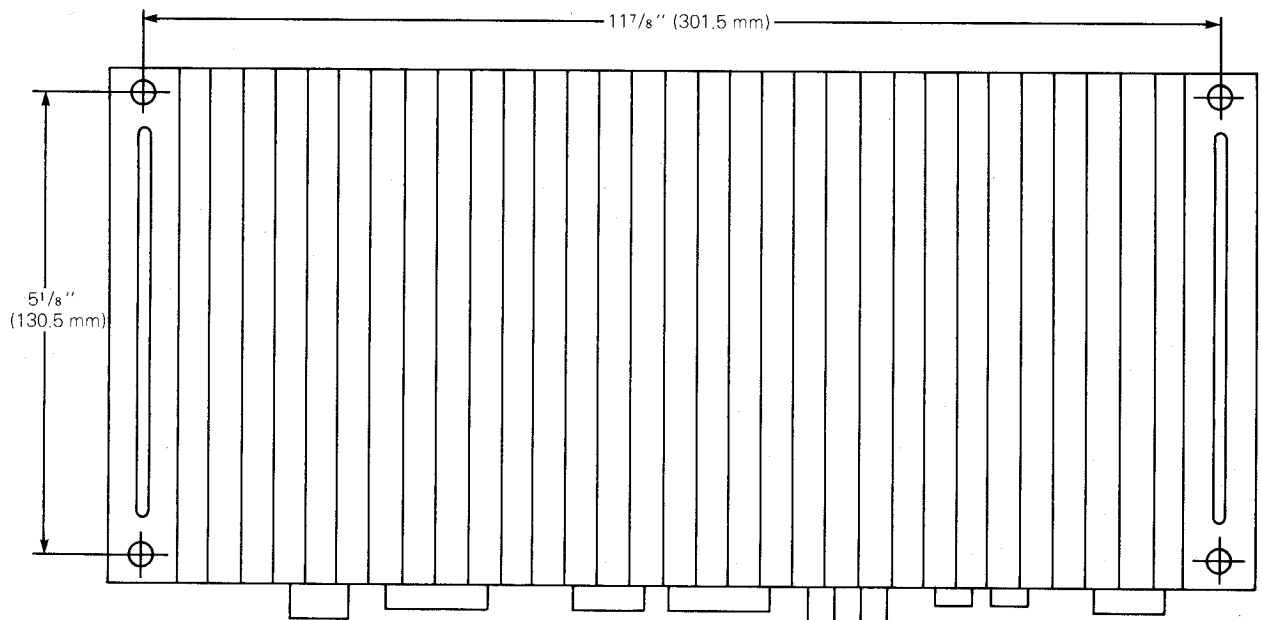

Figure 1. Mounting Centers
Use the top plate diagram (Figure 1) as a guide for drilling. After noting the spacing requirements for the mounting holes (11), mark the mounting surface for drilling. If you are drilling into carpeting or padding of any kind, you should cut away small patches of material with a sharp knife to expose bare metal before drilling. For precise location of the holes, use a centerpunch to help you position the drill bit. Always start with a drill bit several sizes smaller than necessary, and work your way up to larger sizes as needed. This will reduce the risk of accidentally stripping the holes with the self-tapping screws.